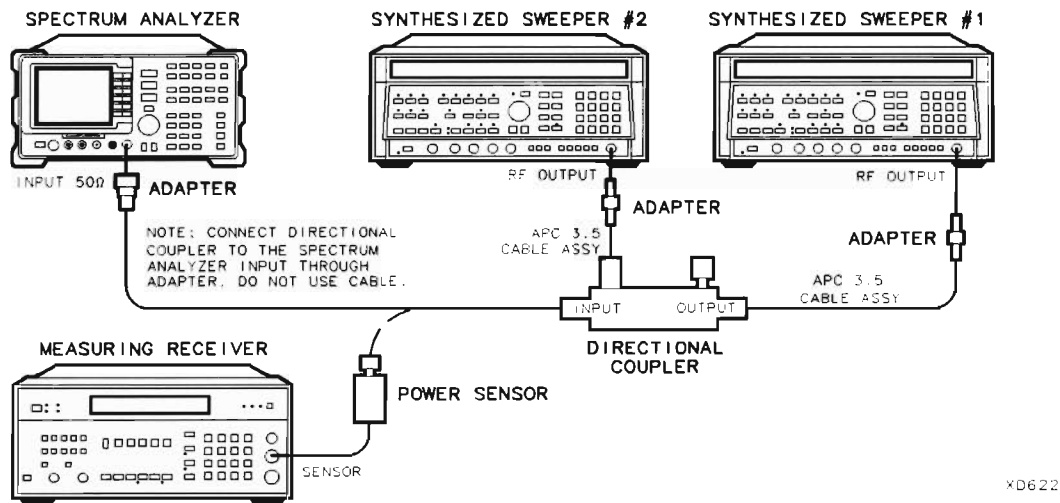

Figure 2-54. Third-Order Intermodulation Distortion Test Setup
35. Connect the equipment as shown in Figure 2-54 with the input of the directional coupler connected to the power sensor.